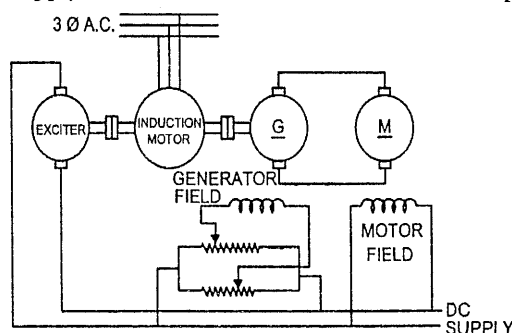

FIG. 4.46 : VOLTAGE CONTROL METHOD
- This system is very sensitive. As shown in Fig. 4.46, here the separately excited d.c. motor M whose speed control is required. It is connected to D.C. Generator, while its field is connected separately to fixed d.c. supply. The basic principle used it is, by varying supply voltage any desired speed can be obtained.